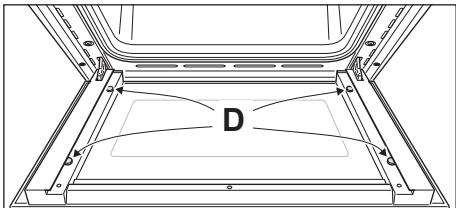

Fig. 4.18
- Check that the four rubber pads are in place ("D" in fig. 4.18).